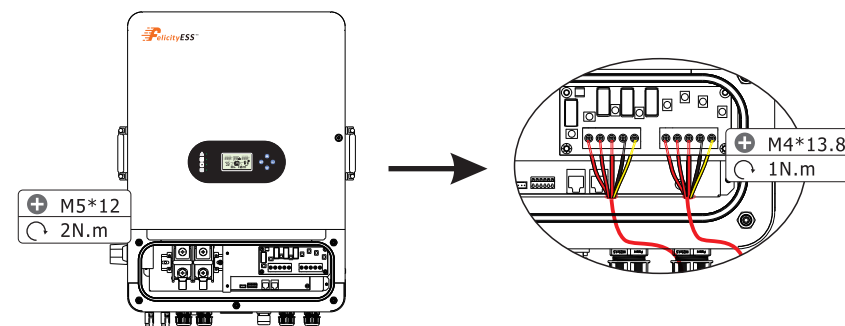

Figure 4.3-3 Ac connection line
**Step 1.** Prepare the terminals and AC cables according to the right table. See Figure 4.3-3.